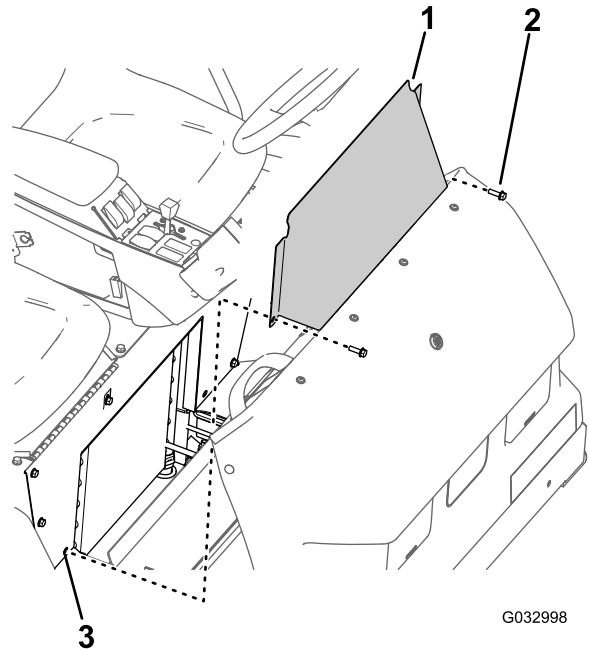

Figure 70
1. Remove the 2 flanged-head bolts that secure the seat-base-access panel to the seat base (Figure 70).
2. Remove the seat-base-access panel from the machine (Figure 70).
1. Align the holes in the seat-base-access panel with the holes in the seat base (Figure 70).
2. Assemble the seat-base-access panel to the seat base with the 2 flanged-head bolts (Figure 70) that you removed in step 1 of Removing the Seat-Base-Access Panel (page 54).